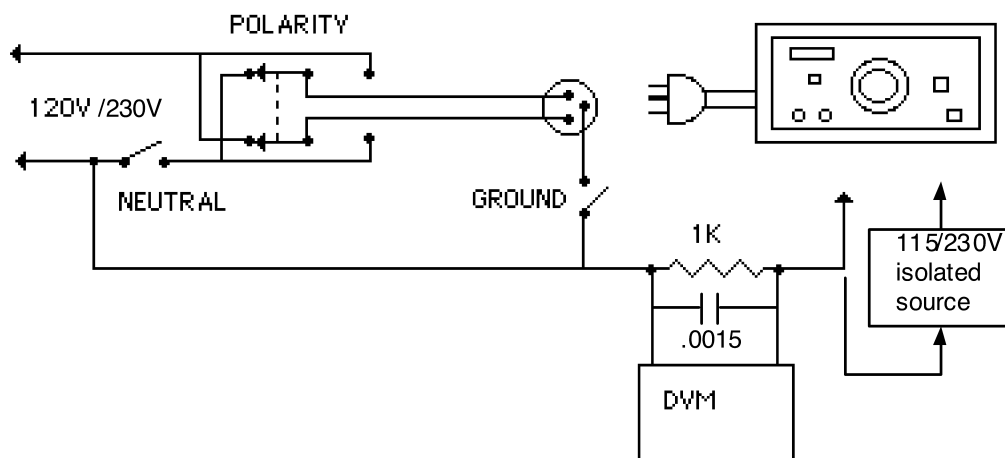

Fig 2.1
- 2.4 Check AC leakage by using a commercial leakage tester or by using a test box constructed so as to permit disconnecting ground, neutral and reversing AC polarity as in figure 2.1. Test leakage under any combination of the switch settings. All current readings should be less than the maximum reading in  $\mu\text{amps}$  RMS read according to chart below between any chassis or electrode point and the test box.